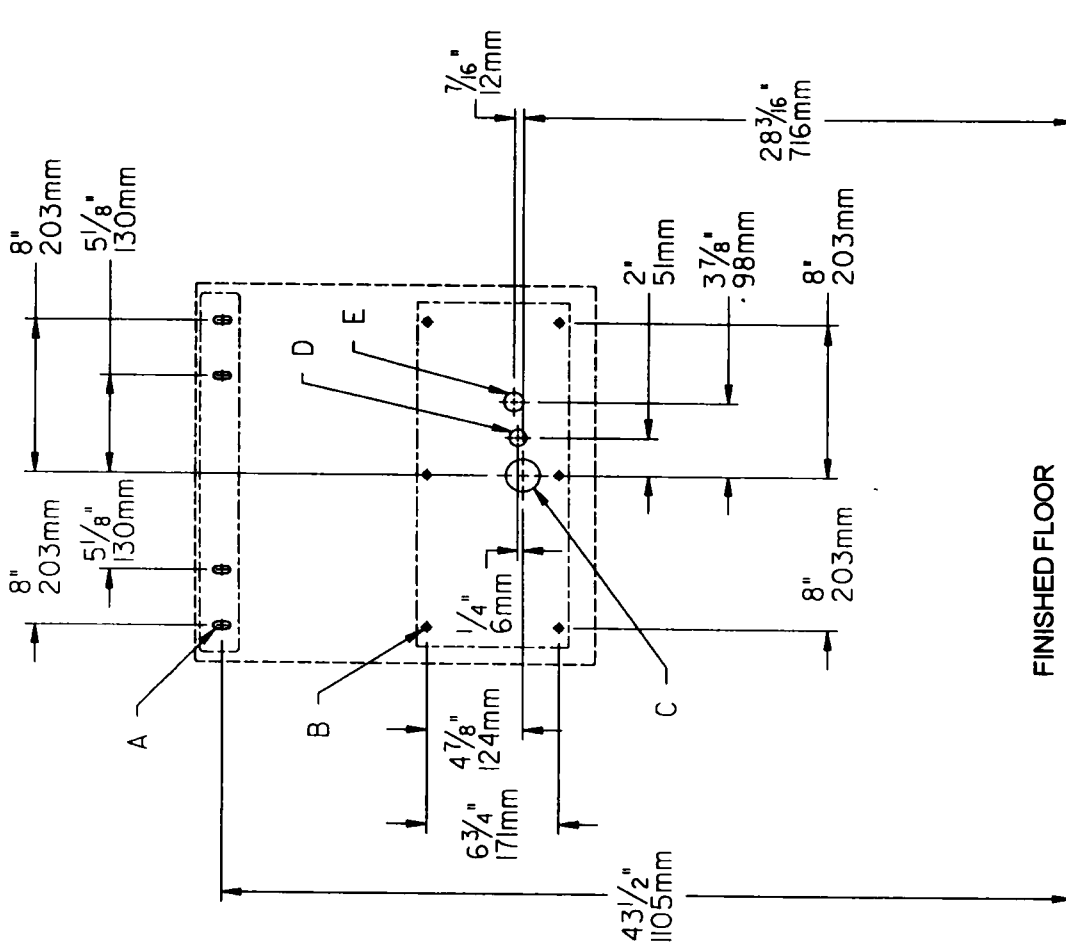

FIG 1
1. Wall should already be framed for the fountain using dimensions shown in Fig. 1. Shown dimensions pertain to installation location. These dimensions are required for compliance with ANSI Standard A117.1. (and ADA) (Framing shown for reference only).